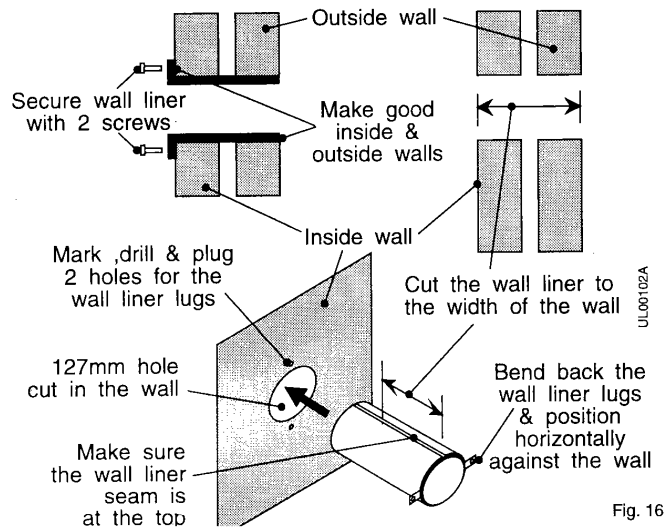

Fig. 16
6. Measure the wall thickness and cut the wall liner to the same length. See Fig.16 Bend back the wall liner lugs (90°).